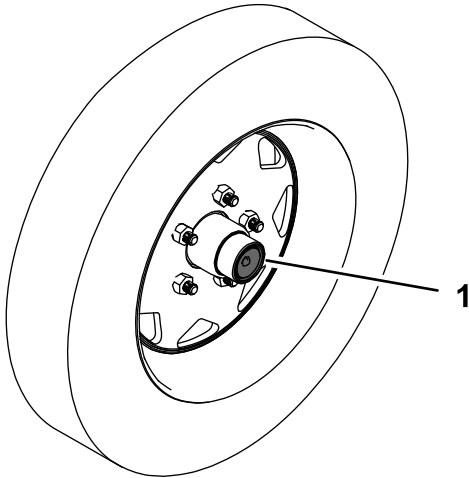
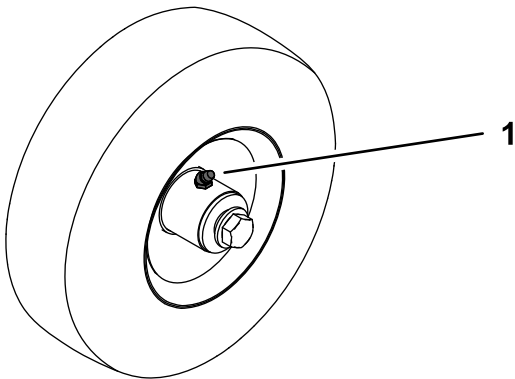

Figure 20
Figure 21
1. Remove the rubber plugs from the axle (Figure 20).
2. Connect a grease gun to the grease fittings and pump grease into the fittings on the axle (Figure 20) and the caster wheels (Figure 21) until grease begins to ooze out of the bearings.
3. Install the rubber plugs (Figure 20).